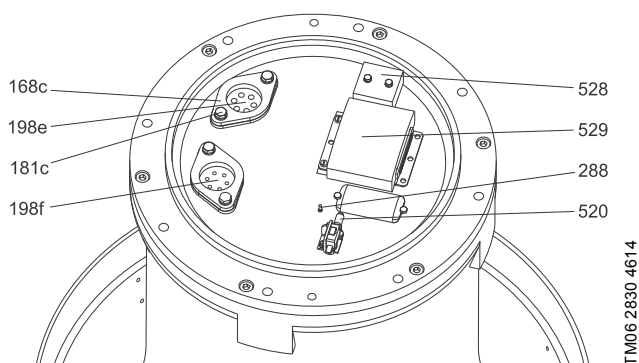

Fig. 41 Position of sensors, KPL 500-600
2. Remove the screw (pos. 178).
3. Lift away the motor top cover (pos. 164a) by the lifting bracket (pos. 190).
4. Disconnect the moisture switch (pos. 520), the Pt100 bearing temperature sensor (pos. 288) and the PVS 3 (pos. 528) sensor wire from SM 113, if SM 113 fitted.
5. Loosen and remove the moisture switch, the Pt100 bearing temperature sensor and the PVS 3 sensor. See fig. 41.